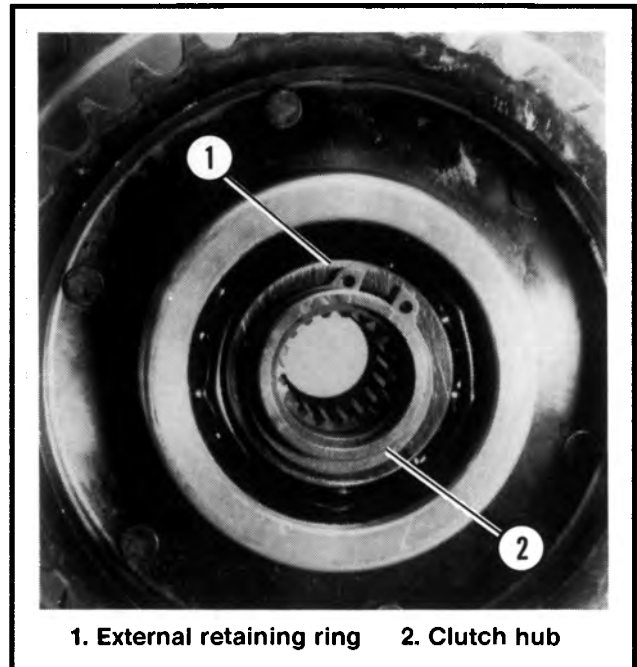

Figure 6-33. Clutch Hub Retaining Ring
2. See Figure 6-33. Remove retaining ring (1).
3. See Figure 6-33. With lock ring pliers, expand external retaining ring (1) and install into groove next to bearing.